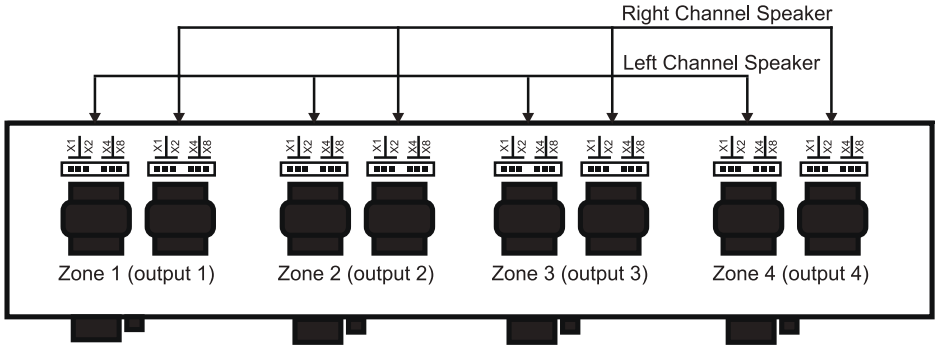

Figure 1 (TVS-4 model shown)
3. There are two 6-pin jumper blocks for each zone which are positioned behind each pair of autotransformer. When looking from the front of the Speaker Selector: 2 jumper blocks on the left side correspond to Zone 1 (Output 1) – the left jumper block is for the left channel of Zone 1 and the right one is for right channel of Zone 1. Going to the right each following jumper block pair corresponds to the next Zone (2,3 etc.) (see Figure 1).